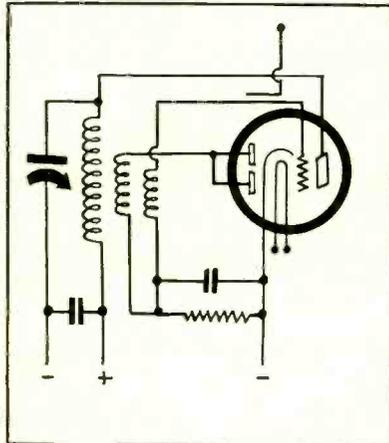
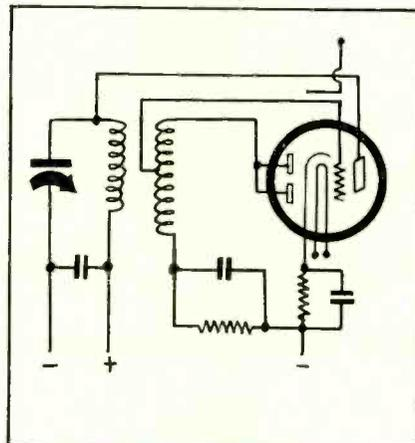
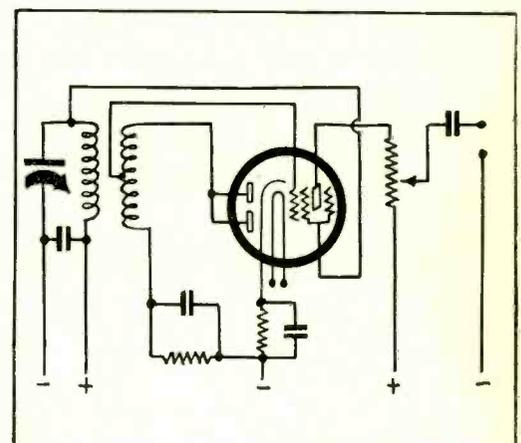

FIG. 4
FIG. 5
FIG. 6
**Lower Row**—Since the bias, if derived from the diode, should always be higher than the amplitude of the oscillation, the proper proportioning of turns and coupling in a three-coil system, Fig. 4, could accomplish this. Or, as in Fig. 5, two windings may be used, all of one of them in diode circuit, only part of that winding in the grid circuit. Some auxiliary bias may be used. Fig. 6 shows the Fig. 5 method, with electron-coupled output, using a 2B7 or 6B7 instead of 55, 75 or 85.